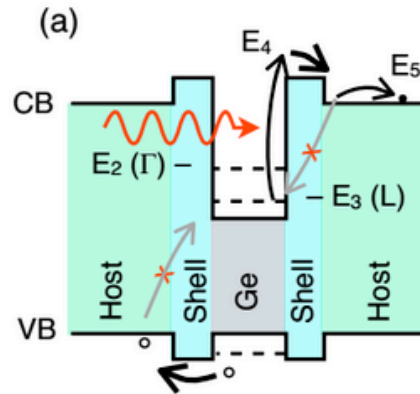

Figure 1. Energy bandgap of Ge core CSUN
My project looked at increasing the efficiency of a solar cell using core-shell upconverting nanostructures (CSUN). CSUNs utilize two low-energy photons to excite one carrier into the conduction band. The basic structure is shown in Figure 1. The first photon absorbed excites an electron in the core from the valence band (VB) to the conduction band (CB). The second photon excites the electron from the conduction band of the core to the conduction band of the host. The electron becomes current. Using MATLAB, I coded a rate equation model that used an actual solar spectrum and calculated the rate at which photons are absorbed and excited into the conduction band.